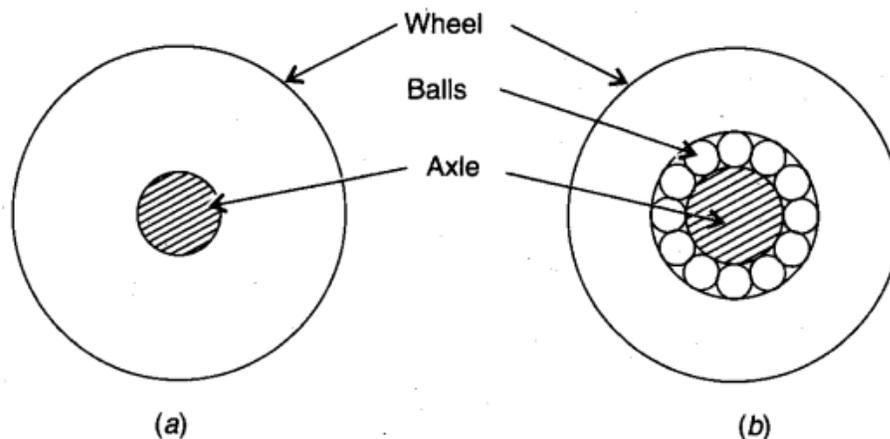

Fig. 7.02. (a) Wheel surface sliding over axle surface (*more friction*)
4. Converting sliding friction into rolling friction. When wheel is mounted direct on axle, surface of wheel hole slides over axle surface as the wheel rolls [Fig. 7.02 (a)]. There is more friction. The motion becomes slow.
But when balls (ball bearings) are introduced between axle surface and hole surface of wheel, situation becomes different [Fig. 7.02 (6)]. Now when the wheel rolls, balls roll and surface of hole moves over rolling balls. Friction is considerably reduced.